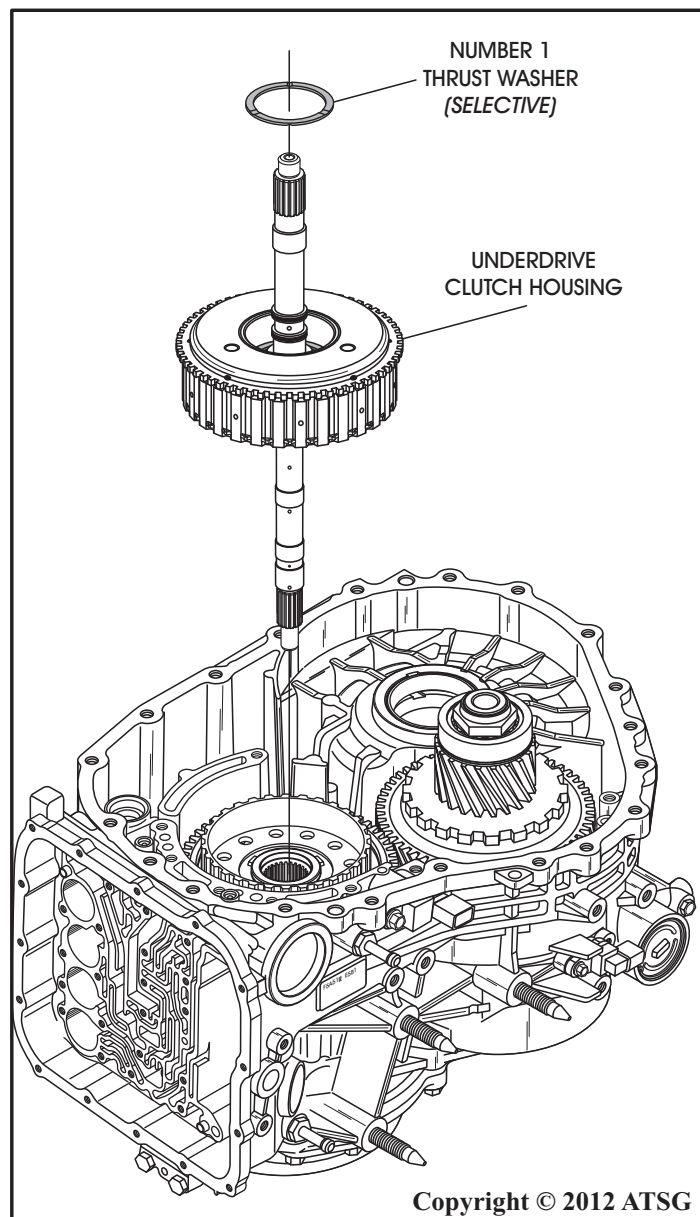

Figure 68
29. Remove the underdrive clutch housing by lifting straight up, as shown in Figure 68.
30. Remove the number 1 selective thrust washer, as shown in Figure 68.